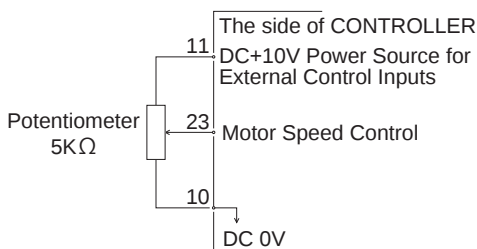
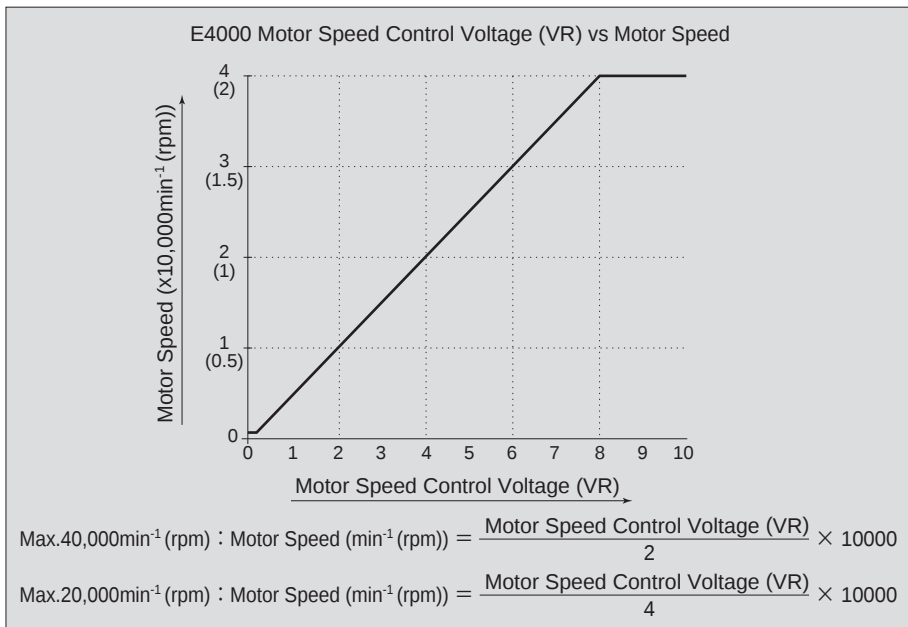

Fig. 29
Fig. 31
Refer to Fig. 29, 30 for connections. Refer to Fig. 31 for the relationship between Motor Speed and " Motor Speed Control Voltage (VR) ".